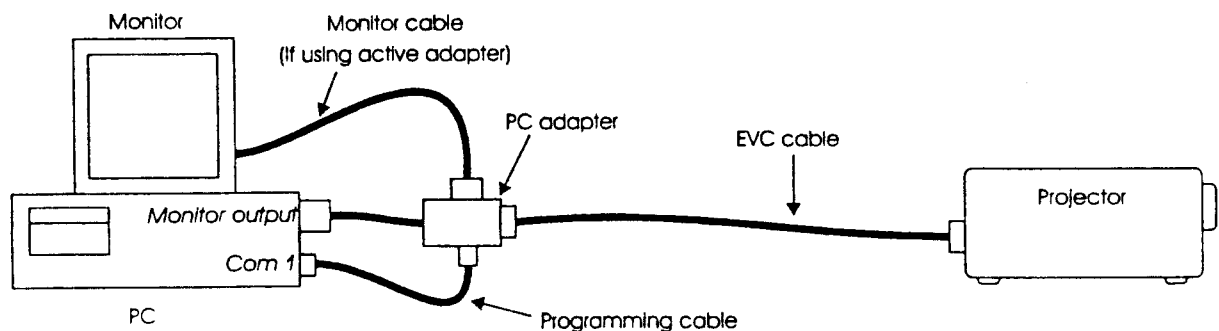

Figure 2: Connecting the PC to the projector for upgrading.
- 1) Connect the projector to the PC as shown in Figure 2 and switch on both devices. The setup is identical to the normal setup used when projecting images except for the programming cable from the PC-adaptor to the PC. This should be connected to serial port 1 (COM1) on the PC. (Note: If another port is used, e.g. COM2, this replaces the text "COM1" for the rest of this document).
- Make sure the procedure for upgrading described in section 0 is followed. Pay particular attention to the setup shown in Figure 2.